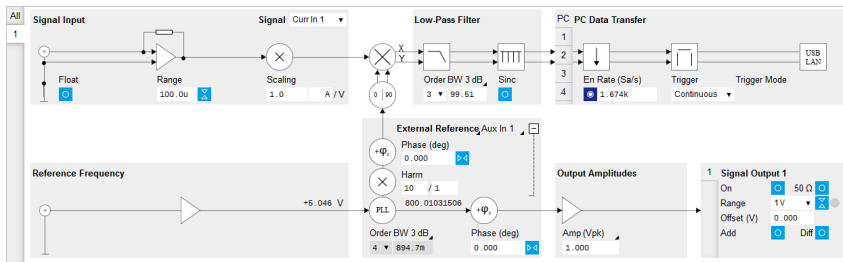

Figure 4.26: Lock-in tab set up for measurement at 800 Hz (without MF-MD option)
**Without MF-MD Multi-demodulator option:** In the Signal Input section of the graphical Lock-in tab, select Current Input 1 and change the input range to 100  $\mu$ A. In the External Reference Section, set the Harmonic (Harm) to 10 / 1. Note that this setting is hidden by default. You can get access to this setting by expanding the section with a click on the + symbol on the top right of the section. You should now observe a numerical display of the demodulator reference frequency close to 800 Hz as shown in Figure 4.26 on page 65. Finally, set the Low-Pass Filter to 100 Hz (3rd order) and enable the data stream in the PC Data Transfer section.